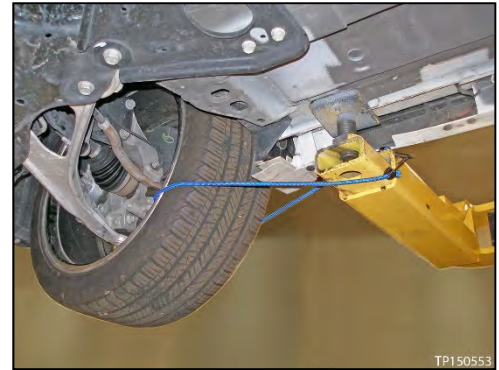
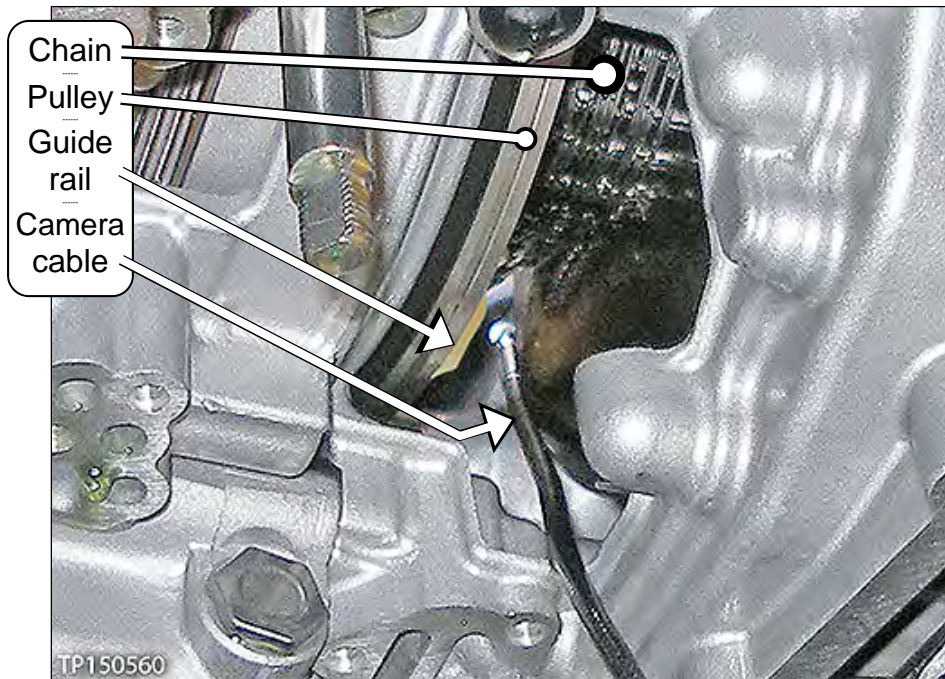
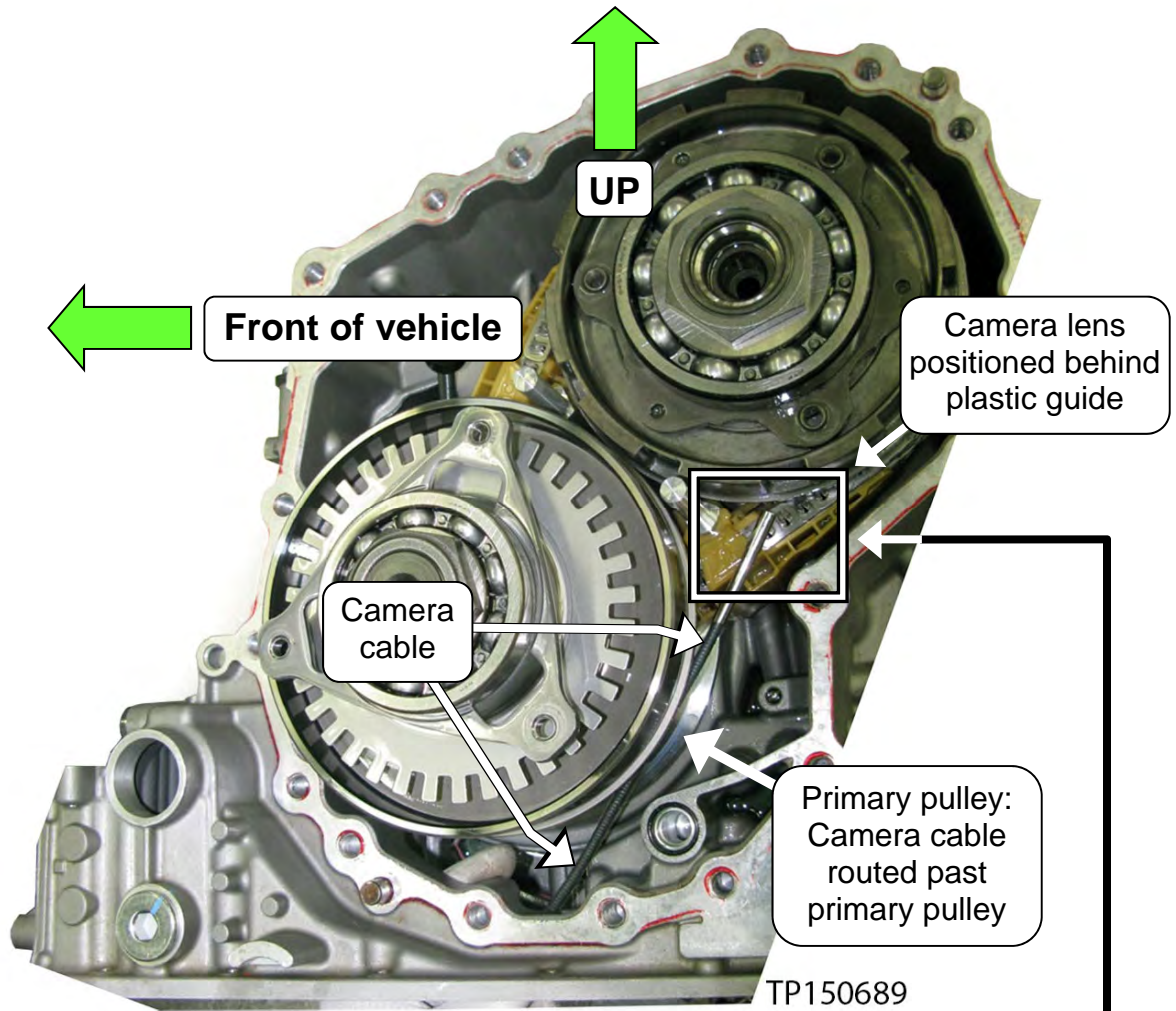
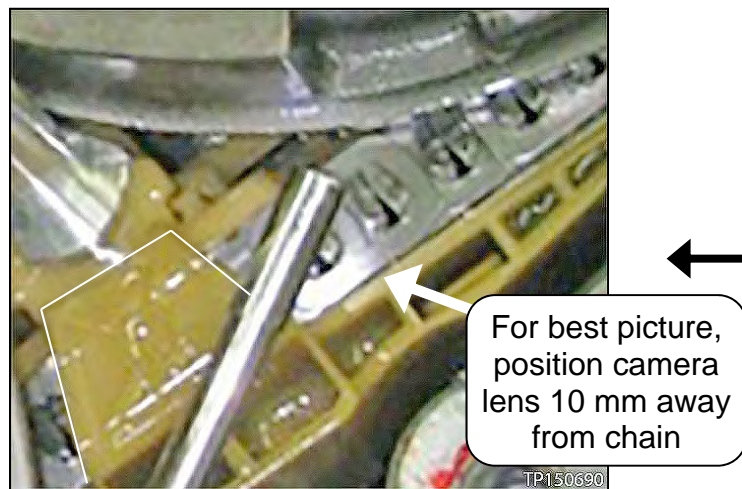

Figure 9
Figure 11
Figure 13
Figure 14
- a. First inspect the entirety (360°) of the driver side of the chain that comes in contact with the pulley (see page 11, Figure 13 and Figure 14, and page 12 Figure 15).
- Insert the camera lens behind the pulley between the guide rail and the pulley where shown in Figure 9 (also see pages 10-11, Figure 11-Figure 14).
- Figure 11 shows where to insert the camera lens on the driver side of the chain.
- Figure 13 and Figure 14 shows the routing and location of the camera.